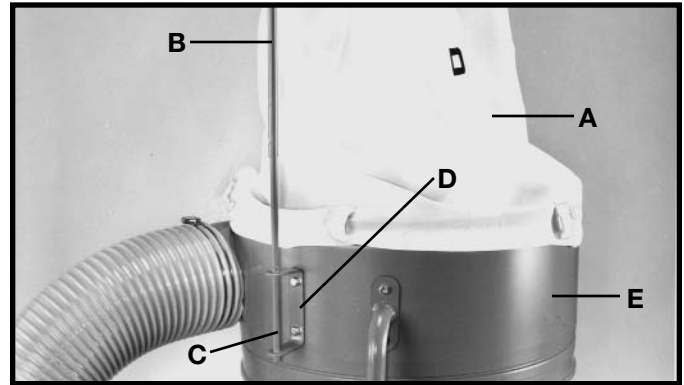
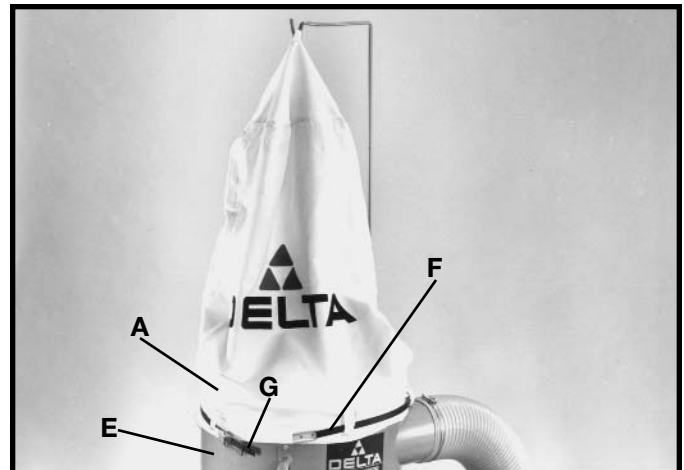

Fig. 19
Fig. 20
2. Assemble extension rod (C) Fig. 19, onto the end of filter bag support rod (B). Raise support rods (B) and (C), with filter bag (A) attached and place end of support rod (C) into holes of bracket (D). **NOTE:** Flared end of filter bag extension rod will prevent the rod from sliding through bracket.
3. Position open end of filter bag (A) Fig. 19, over lip of dust drum (E). Insert locking band (F) Fig. 20, through the loops of filter bag (A) and fasten with clamp (G) as shown in Fig. 21. **NOTE:** Make certain locking band is positioned in the channel of drum (F) before fastening clamp.